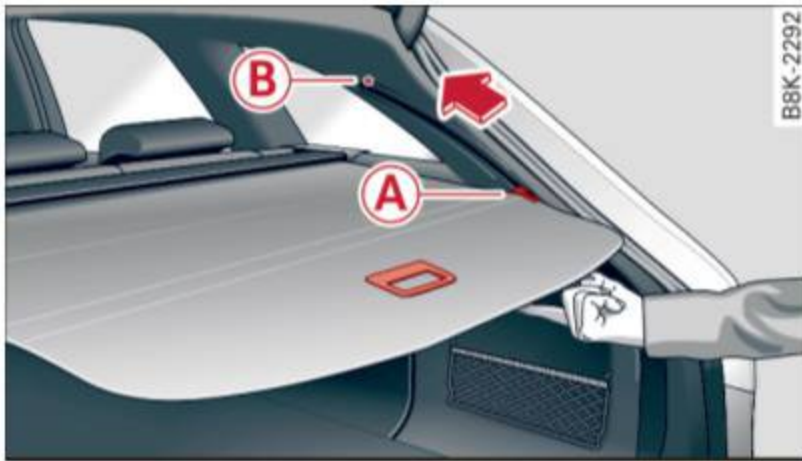

Fig. 74 Luggage compartment: cover hanging in position **A**
The luggage compartment cover can be hung in position **A** or in the comfort position **B** ⇒ fig. 74.
- ▶ To move to position **B**, tilt the end of the cover upward from the bottom when the cover is extended. It will then move into position **B** by itself ⇒ fig. 74.